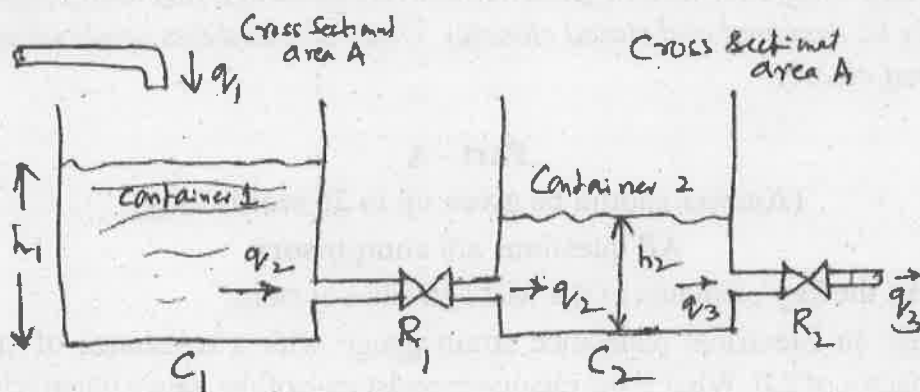

Figure 1
1. Derive the relationship between the height h_1, h_2 and time for the hydraulic system shown in Figure 1 given below. Neglect inertance.